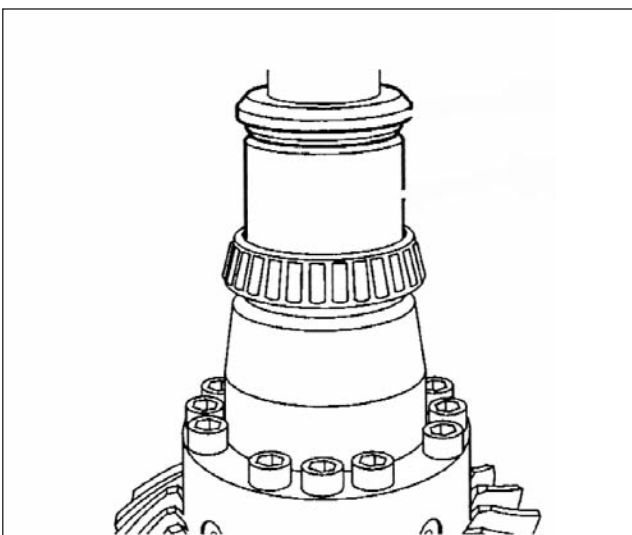

Fig. 2.77
7. Push on the inner ring of the differential bearing (Fig. 2.77)